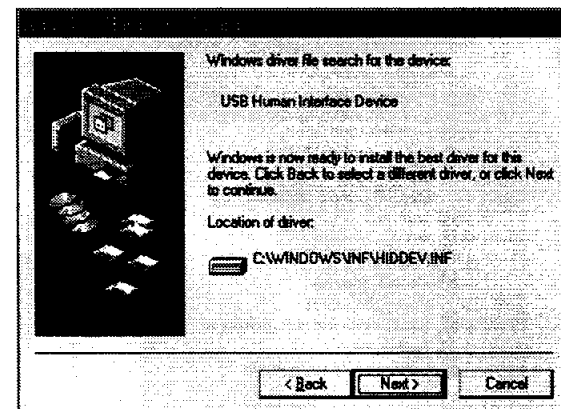
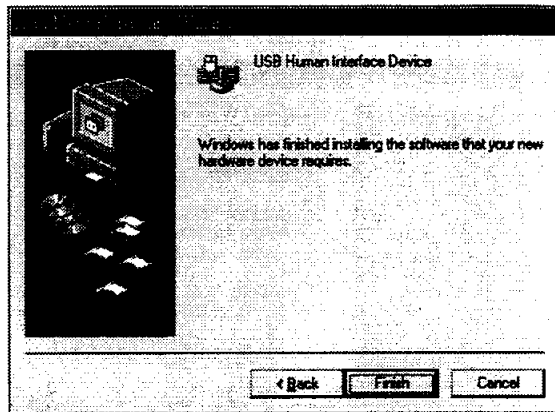

Figure 11
Figure 12
- (6) Click "CD-ROM Drive(C)", and click "Next". Figure 11 will appear.
- (7) Click "Next" on Figure 11 and Figure 12 will appear. Click "Finish" on Figure 12 to complete Enumeration of Mitsubishi Monitor Function.